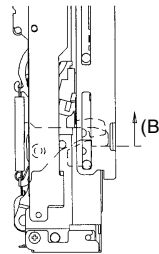

Fig.2
- (2) Push the lock lever in the direction shown by the arrow and move up the cassette controller. (See Fig.2.)